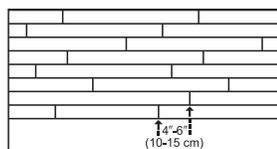

Figure 4 Preferred Alignment
- Be attentive to staggering the ends of boards at least 4"-6" (10-15 cm), when possible, in adjacent rows (Figure 4). This staggering pattern will help ensure a more favorable overall appearance of the floor.